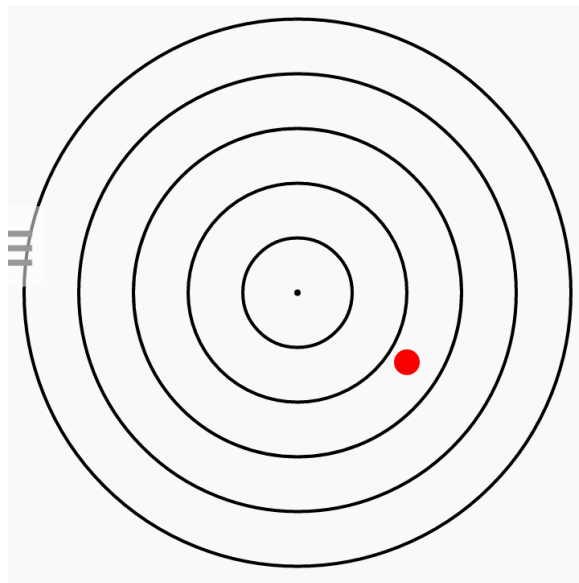

**Fig. 4.6.45:** Navigating to borehole:
3. Tap on NAVIGATION, to start the navigation function. If you are more than 5 m away from the object, a screen with arrow appears, see Fig. 4.6.2. Walk in the direction of the arrow to get to the borehole. As soon as you are less than 5 m away from the borehole, a screen with red dot appears, see Fig. 4.6.45.